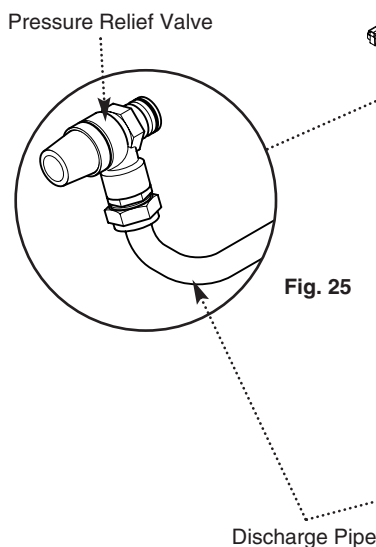

Fig. 25
8.5 Fitting the Pressure Relief Discharge Pipe (Fig. 25)